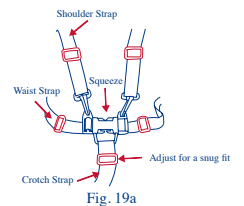

Fig. 19a
- Carefully place the child in the stroller seat and bring the safety harness around the child's waist and over the shoulders. Place the crotch strap between the child's legs. Place the male end of each shoulder/waist belt into the buckle on the crotch strap. Tighten the harness to be snug around the child's waist and over the child's shoulders. Please see figure 19a.